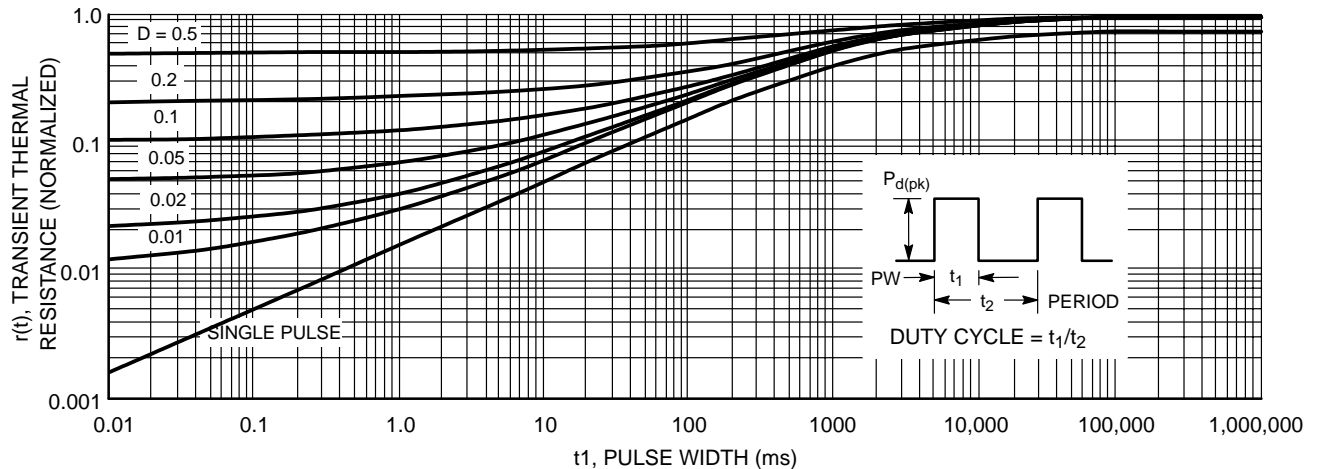

Figure 11. Transient Thermal Response
2. For pulsed operation, use the Transient Thermal Response of Figure 11 and the instructions with it to determine the maximum limit on transistor power dissipation for the desired duty cycle and temperature range.